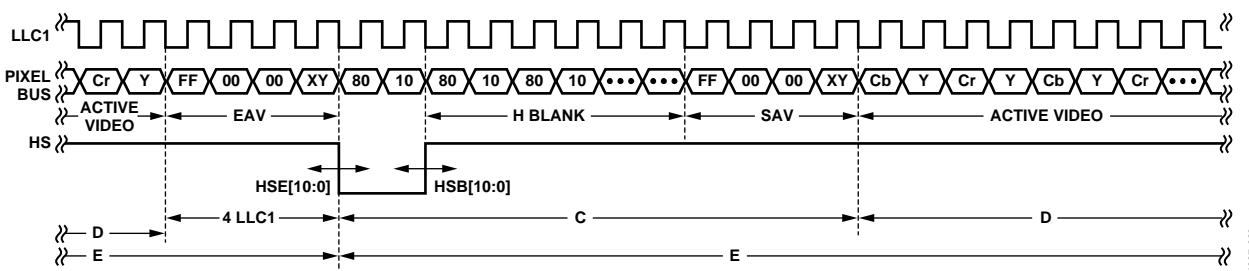

Figure 20. HS Timing
The position of this edge is controlled by placing a binary number into HSB[10:0]. The number applied offsets the edge with respect to an internal counter that is reset to 0 immediately after EAV Code FF, 00, 00, XY (see Figure 20). HSB is set to 00000000010b, which is 2 LLC1 clock cycles from Count[0].
The position of this edge is controlled by placing a binary number into HSE[10:0]. The number applied offsets the edge with respect to an internal counter that is reset to 0 immediately after EAV Code FF, 00, 00, XY (see Figure 20). HSE is set to 00000000000b, which is 0 LLC1 clock cycles from Count[0].
**Table 55. HS Timing Parameters (see Figure 20)**